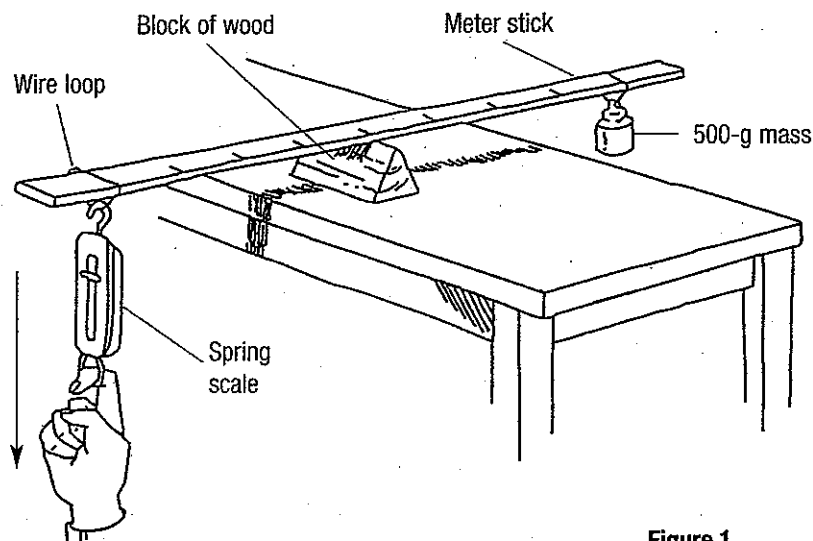

Figure 1
2. To make a first-class lever, place the wedge-shaped block of wood on the table to serve as a fulcrum. Place the 50-cm mark of the meter stick on the fulcrum so that the 100-cm end of the meter stick extends beyond the edge of the table, as shown in Figure 1. Use string to tie the 500-g mass to the meter stick at the 10-cm mark. This mass serves as the load that the lever will lift.